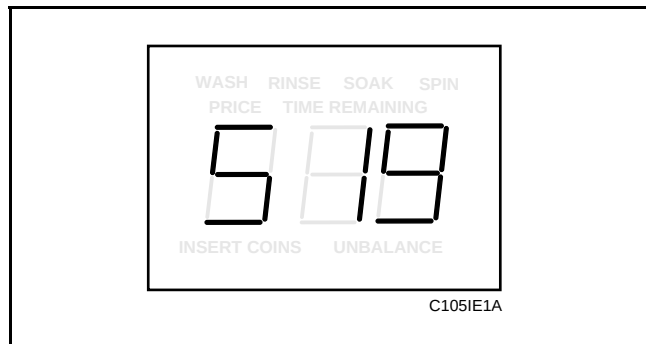

Figure 82
2. While pressing and holding the PERM PRESS keypad with one hand, press the COLD keypad with the other hand. Programmable option number one, “Slg”, will appear in the VFD. See **Figure 82**.